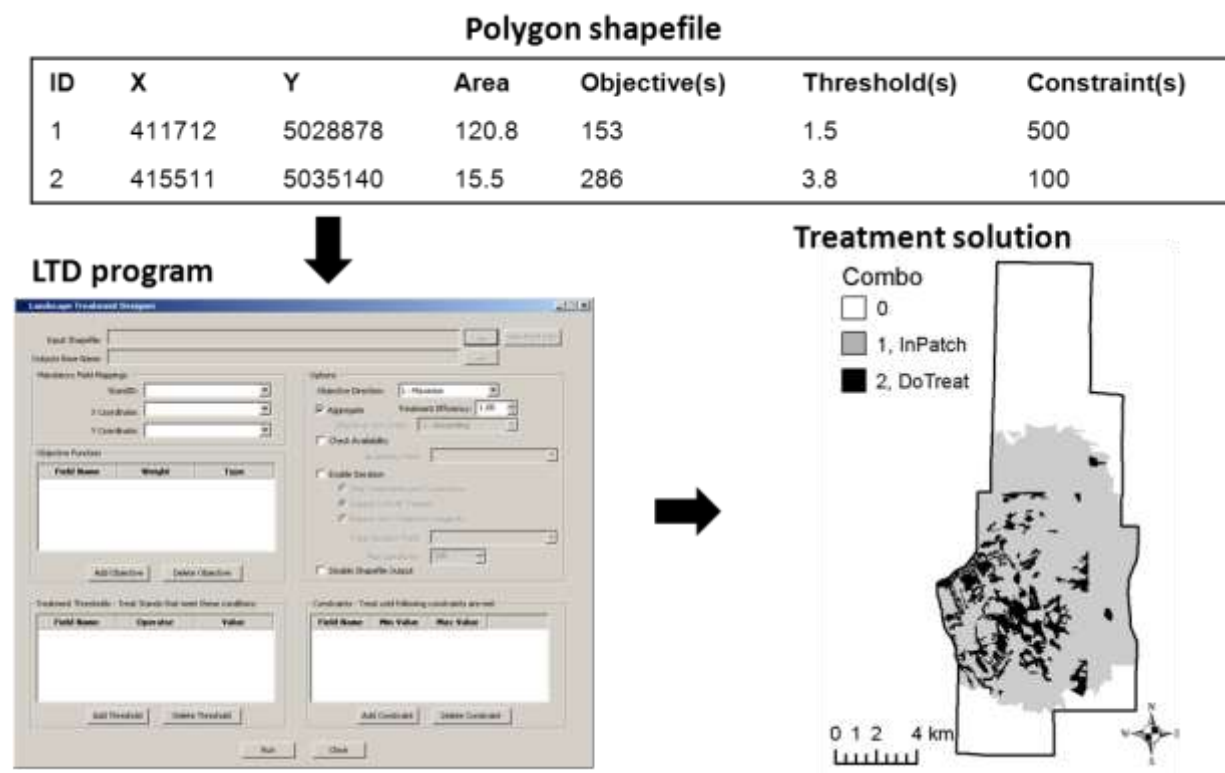

Figure 5-1—Diagram showing the input data and outputs of the LTD program
The Landscape Treatment Designer (LTD) program is a multi-criteria spatial prioritization and optimization system to help design and explore landscape fuel treatment scenarios. The program fills a gap between fire model programs such as FlamMap, and planning systems such as ArcFuels, in the fuel treatment planning process. The LTD uses inputs on spatial treatment objectives, activity constraints, and treatment thresholds; and then identifies optimal fuel treatment locations with respect to the input parameters (fig. 5-1). The input data represent polygons that are attributed with information about expected fire behavior, and the polygon's overall contribution to one or more landscape management objectives. Four types of output files are generated with each run: (1) a text file containing all the input data with treatment locations indicated, (2) a summary text file of input parameters and output results, (3) a results comma separated file with the input parameters and output results, and (4) a shapefile with an attribute table that identifies patch locations and stands selected for treatments.